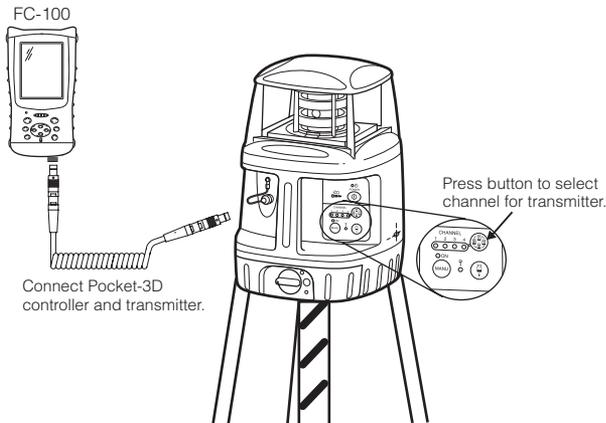

Figure 2-7. Select Channel and Connect Controller
3. Turn on the transmitter’s power and select a channel for the transmitter (Figure 2-7 on page 2-7).
4. Connect the transmitter and Pocket-3D controller (Figure 2-7). Check that a mmGPS-enabled machine configuration is loaded.